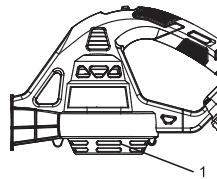

Fig. 9
1. Turn the blower onto its right side (Fig. 9).
2. Carefully brush any debris off the air intake grille (1).